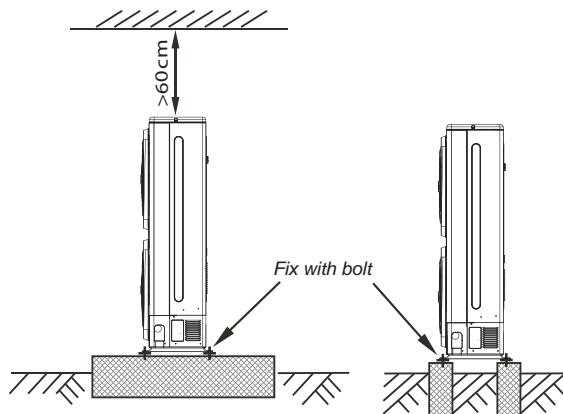

Fig.3-7
- Make concrete foundation according to the specifications of the outdoor units.(refer to Fig.3-7)
- Fasten the feet of this unit with bolts firmly to prevent it from collapsing in case of earthquake or strong wind. (refer to Fig.3-7)